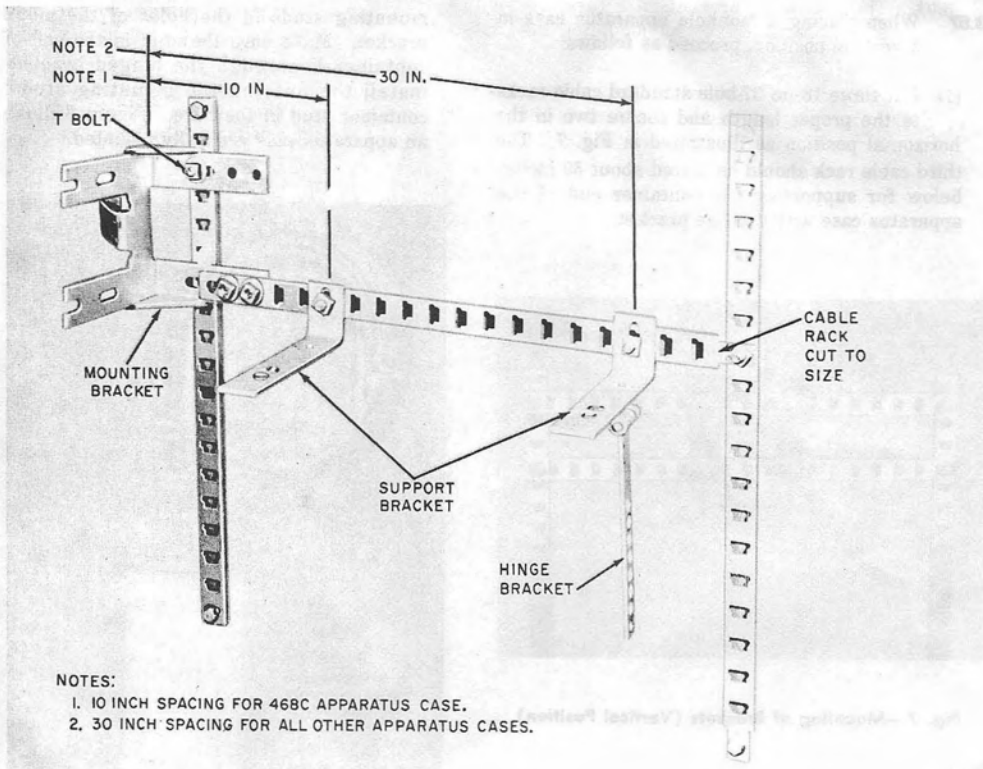

Fig. 5—Mounting of Brackets
(1) Remove the mounting bracket from the top of the apparatus case and bolt it to the vertical cable rack as shown in Fig. 5.
(2) Bolt an 18- or 37-hole standard cable rack (cut to the proper length) to the bottom part of the mounting bracket and the opposite vertical cable rack (Fig. 5).
(3) Bolt the hinge bracket to the L-shaped support bracket, and with the exception of the 468C Apparatus Case, bolt the support bracket about 30 inches from the mounting bracket (Fig. 5).
(4) *On 468C Apparatus Cases only*, bolt the support bracket 10 inches from the mounting bracket (Fig. 5). On this type apparatus case, the hinge bracket is not required.
(5) Place the apparatus case in position (with the container in place); insert the baseplate mounting studs into the mounting bracket holes and install the nuts on the mounting studs.
(6) Connect the hinge bracket to the end of the container.